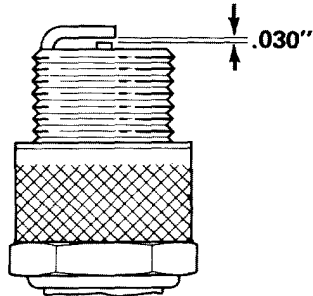

Figure 22
4. Set air gap between center and side electrodes at 0.030 of an inch (0.76 mm) (Fig. 22). Install correctly gapped spark plug w/gasket seal, and tighten plug to 15 ft-lb (20.4 N·m). If torque wrench is not used, tighten plug firmly.